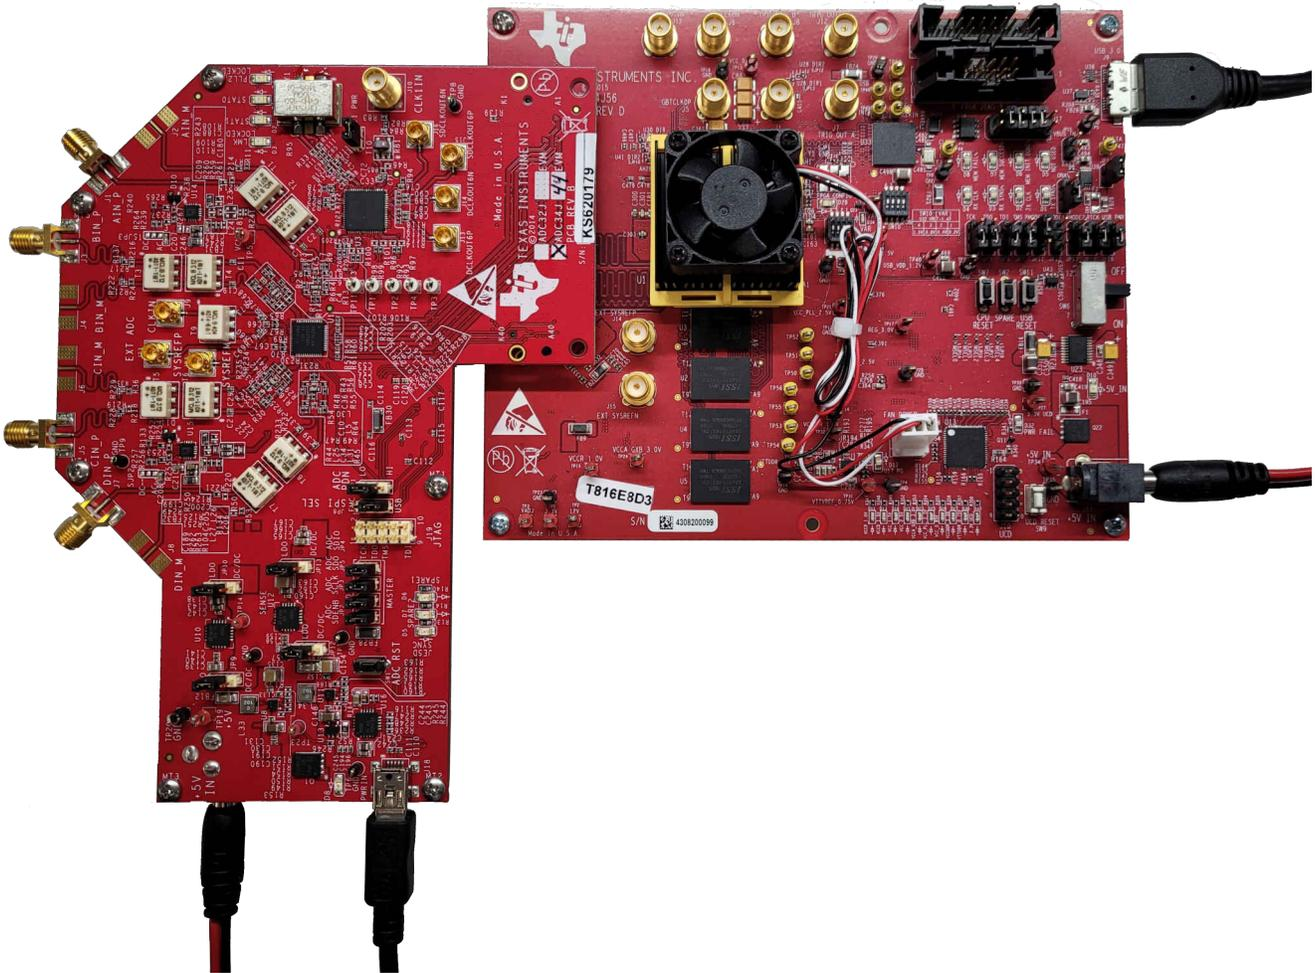

Figure 8-2. TSW14J56 EVM connected to an ADC34J45 EVM
- The TSW14J56 EVM connected to an ADC34J45 EVM is shown in Figure 8-2